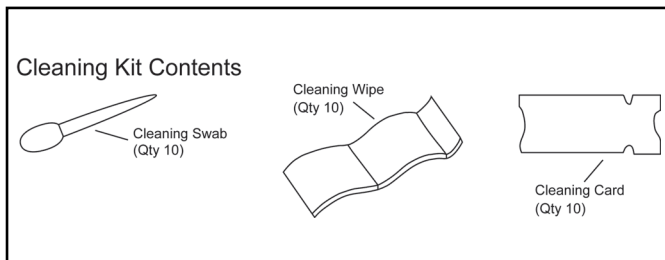

Figure 1 JCM® Printer Cleaning Kit (P/N 350-00292-100)
**Usage:** The JCM Printer Cleaning Kit (Figure 1) includes all the tools necessary to thoroughly clean a GEN Series Printer (e.g., GEN1, GEN2™, GEN2U™ or GEN3 Evolution). The Printer Cleaning Kit includes the following items (10 of each):